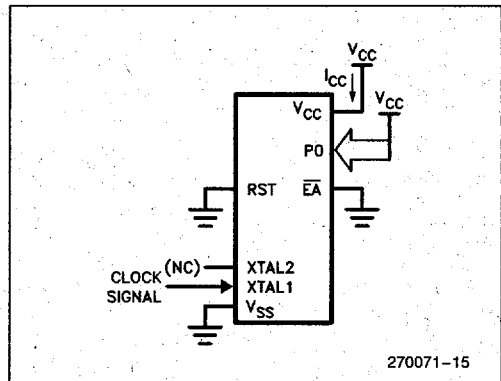

Figure 6. I_{CC} Test Condition, Idle Mode.
4. Idle I_{CC} is measured with all output pins disconnected; XTAL1 driven with TCLCH, TCHCL = 5 ns, $V_{IL} = V_{SS} + 0.5V$, $V_{IH} = V_{CC} - 0.5V$; XTAL2 N.C.; Port 0 = V_{CC} ; $\overline{EA} = \overline{RST} = V_{SS}$ (see Figure 6).